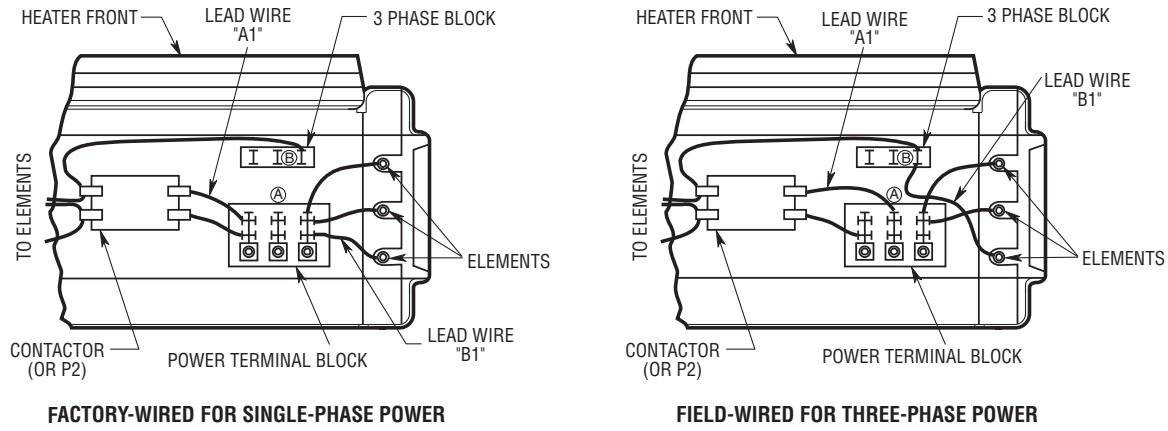

Figure 3a. Wiring Connections for Single-Phase and Three Phase Power (HUHAA520, HUHAA524, HUHAA720, HUHAA724, HUHAA1020 and HUH HUHAA1024)
8. Single or three-phase power connections may be used with heater models HUHAA520, HUHAA524, HUHAA720, HUHAA724, HUHAA1020, HUHAA1024 and HUHAA1520. These units are factory wired for single phase operation. If these heaters are for use with three-phased power, reconnect the wires as indicated in the wiring diagram attached to the heater. Additional information can be found by looking at the wiring illustrations in Figures 3a and 3b and following the directions shown below.
On models HUHAA520, HUHAA524, HUHAA720, HUHAA724, HUHAA1020 and HUHAA1024 (Figure 3a), move only the two wires marked "A1" and marked "B1"; do not move or change any other wiring. The element lead wire marked "B1" which is factory connected to the power terminal block (terminal located closest to the elements) must be moved to terminal "B" on the three-phase terminal block.